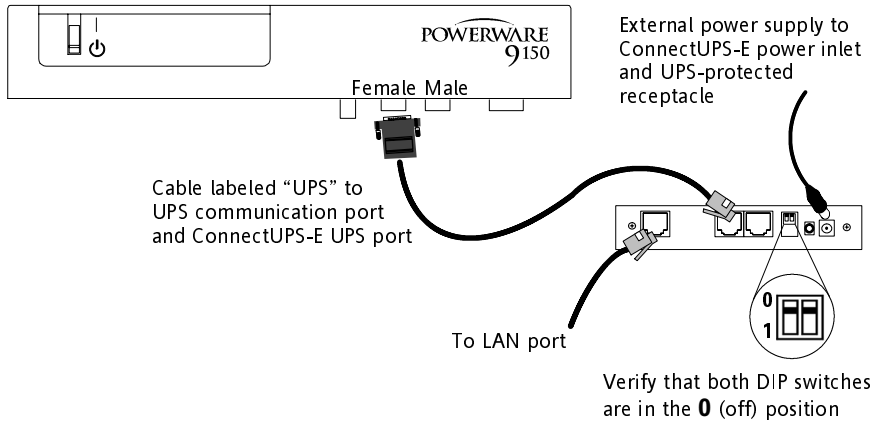

Figure 7. Installing the ConnectUPS-E with a Powerware 9150 UPS
3. **If the female port is available**, use the supplied serial cable labeled “UPS” to connect the UPS port on the ConnectUPS-E to the female, 9-pin, RS-232 port on the UPS (see Figure 7). Continue to Step 5.